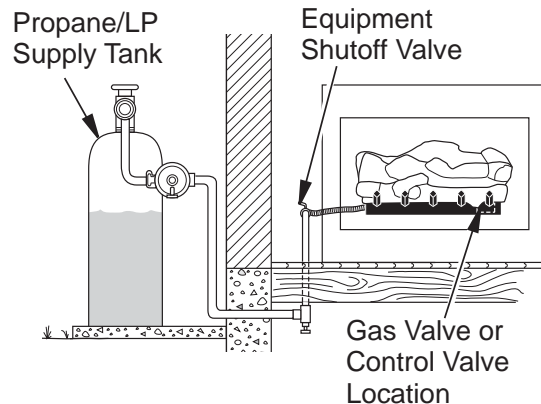

Figure 16 - Checking Gas Joints (Propane/LP Only)
3. Check all joints from gas meter to equipment shutoff valve for natural gas or propane/LP supply to equipment shutoff valve for propane/LP (see *Figure 16 or 17*). Apply noncorrosive leak detection fluid to all joints. Bubbles forming show a leak.
4. Check all joints from equipment shutoff valve (see **Figure 16 or 17, Page 16**). Apply noncorrosive leak detection fluid to all joints. Bubbles forming show a leak.